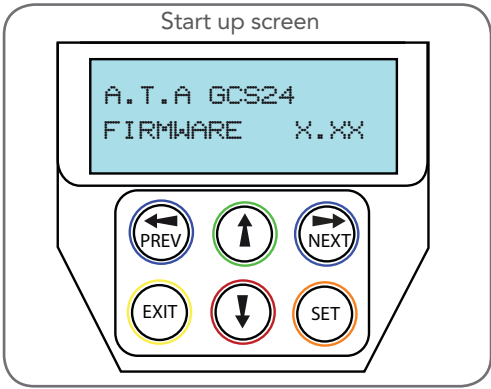

Fig 7.2
- a. After checking the initial wiring, apply power to the DCB-05V2. The controller will go through a startup sequence displaying the STARTUP SCREEN which indicates the controller type and firmware version (Fig. 7.2). After a short delay the MAIN SCREEN will be displayed.